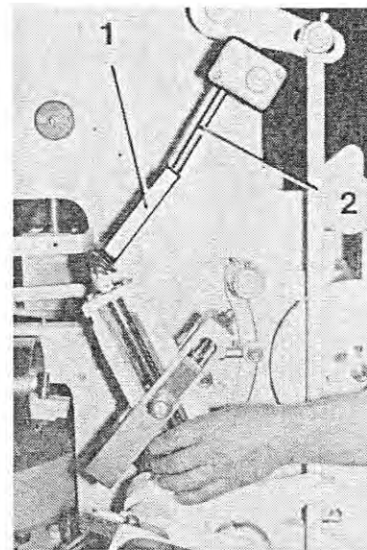
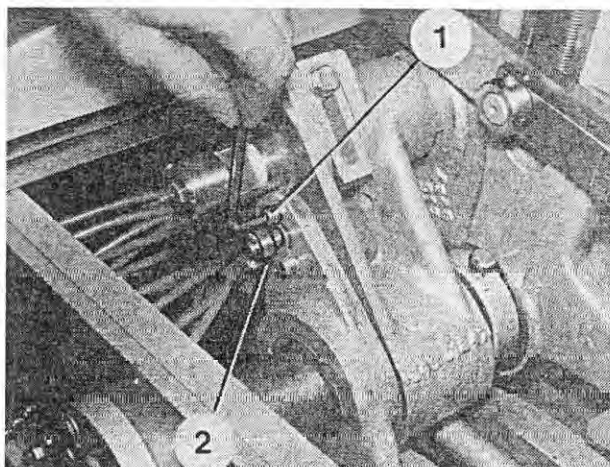

Fig. 247
Fig. 257
6. Push the dosing lever in the direction of the dosing case until the driving tube (Figure 257/1) and the multiple spline shaft (Figure 247/2) are disconnected.
1. Unscrew the stop screw (Figure 257/1) of the retaining spring.
2. Pull out the front part of the shear pin (Figure 257/2).